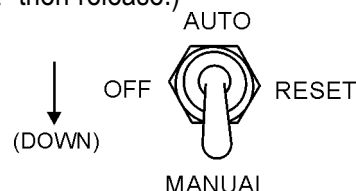

Figure 26. Off/Manual/Auto Switch (Manual)
7. Place the Off/Manual/Auto switch (Figure 26) in the **MANUAL** position (down). Observe that the engine begins to crank. (For S/N3697060 to S/N3698949-Turn the key to 'Start' then release.)